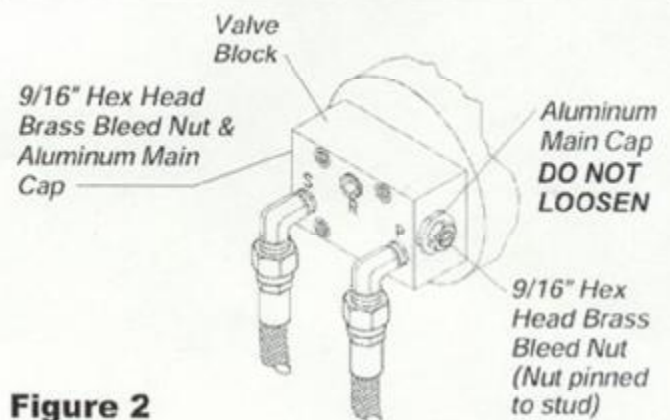

Figure 2
2. Unscrew 9/16" **brass hex nuts** on each side of helm (Figure 2) and back out by hand until they stop. **DO NOT** loosen aluminum main caps.